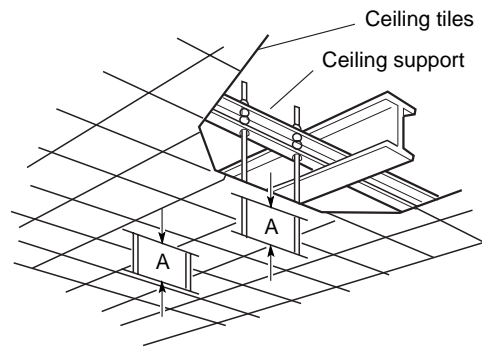

Fig. 3-66
- b) Use existing ceiling supports or construct a suitable support as shown in Fig. 3-66.
- (4) Screw in the suspension bolts, allowing them to protrude from the ceiling as shown in Fig. 3-66. Distance "A" of each exposed bolt must be of equal length.